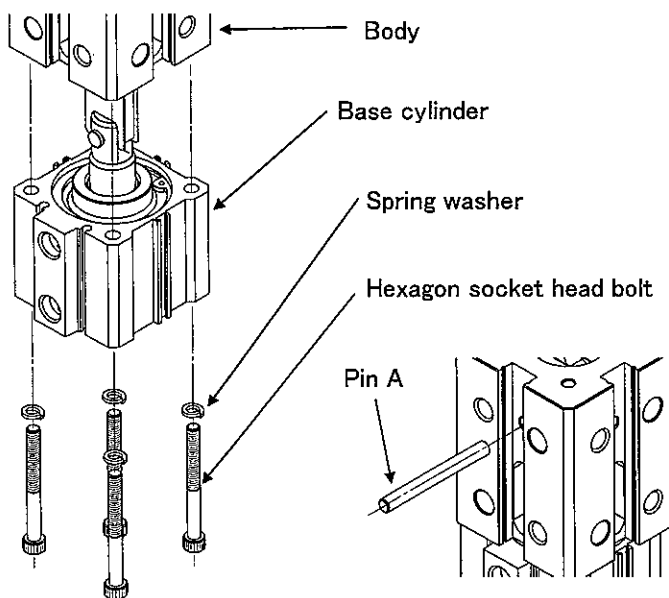

Fig. 7-13
- Put in the body and tighten spring washer and hexagon socket head bolt accessible from head side in written order. (Fig. 7-13) Note: Keep tightening torque 4 to 6N·m.